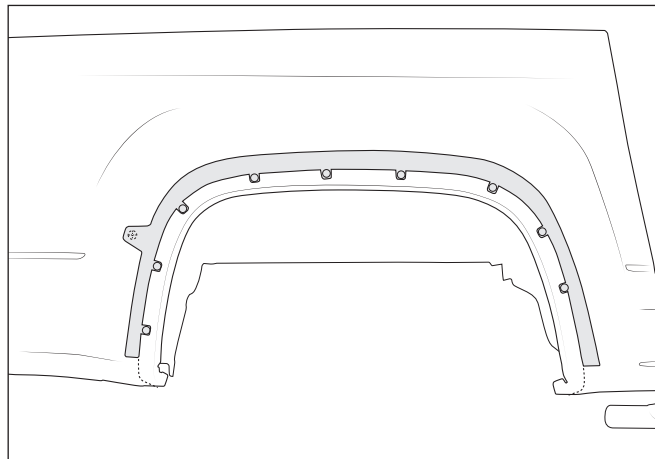

Figure 17
3. Adhere templates to vehicle with tape or the plastic clips from the factory flare, align the factory holes with the templates (fig. 17).